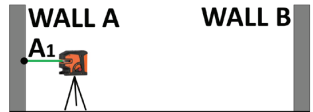

Figure 19
1. Set laser next to Wall A. Mark beam height on Wall A as point A1. (Figure 19)